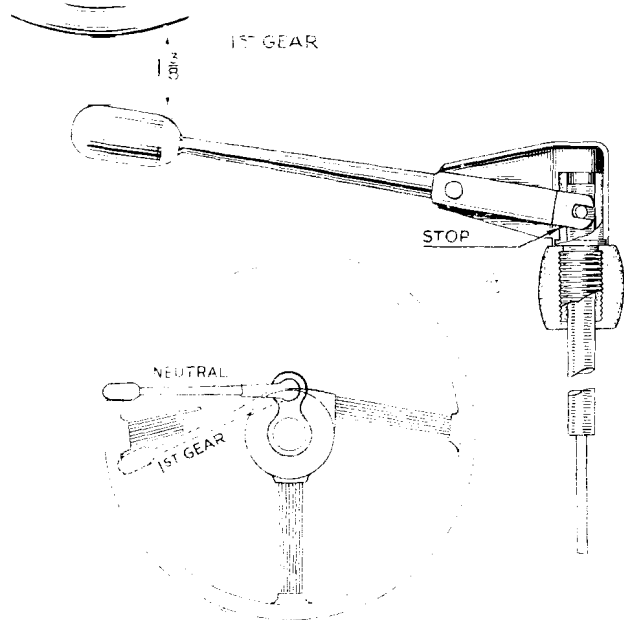

Fig. 10. Position of change-speed lever when setting intermediate bracket's position.
21. Position hand lever to bring fork end against its stop, as shown in Fig. 10.
22. Rotate hand lever until it is in approximately 1st Gear position as shown in Fig. 10. In this position, move the whole top bracket assembly until a dimension of $1.\frac{3}{8}$ " to $1.\frac{7}{16}$ " is obtained between the gear lever knob and the rim of the steering wheel, as shown in illustration. Place the bracket in a vertical position and secure clamping bolt. Pass an elastic band round the steering wheel and hand lever to maintain position.